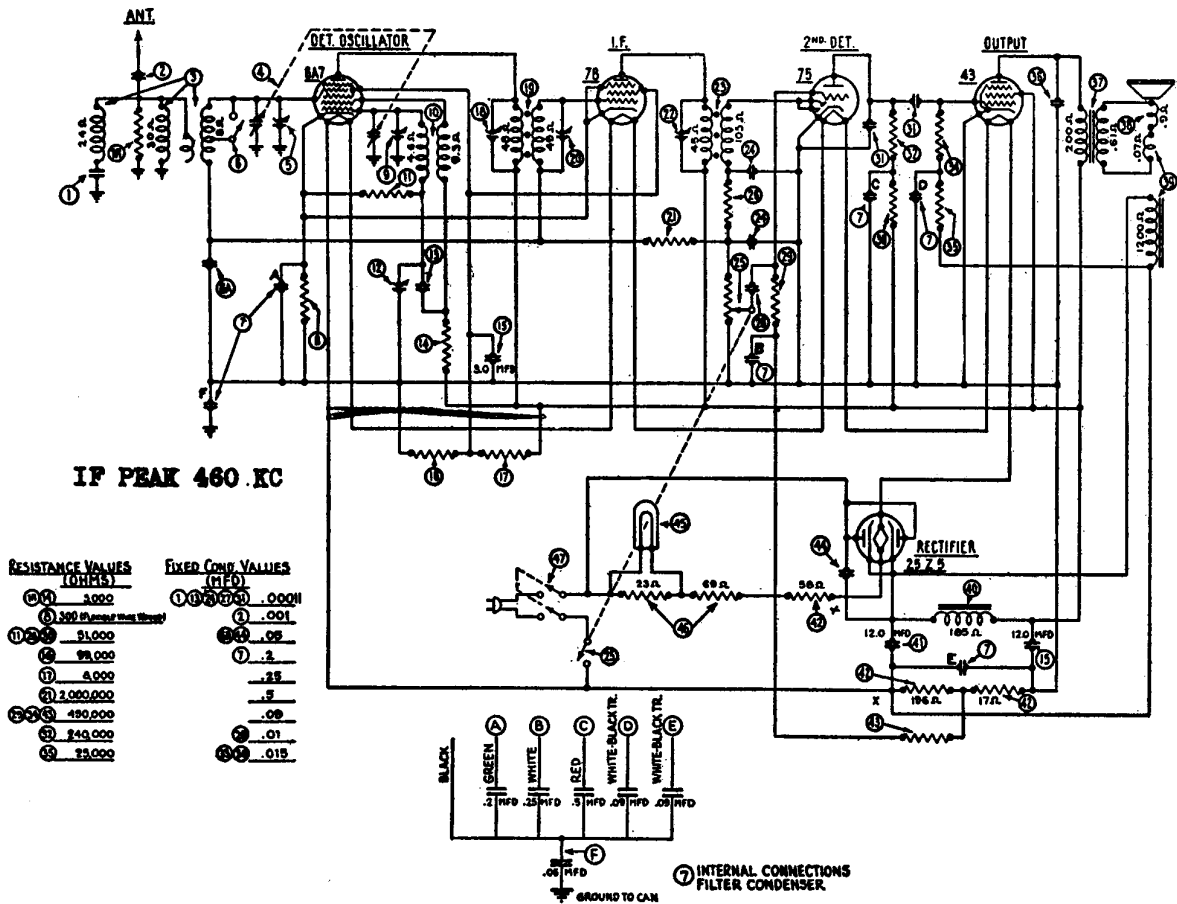

Fig. 3—Schematic Wiring Diagram
NOTE—Due to filaments in series, test with suitable A. C. voltmeter across the two points on Resistor (X) marked with an X in Fig. 3.
NOTE—Due to filaments in series, test with suitable D. C. voltmeter across the two points on Resistor (X) marked with an X in Fig. 3.